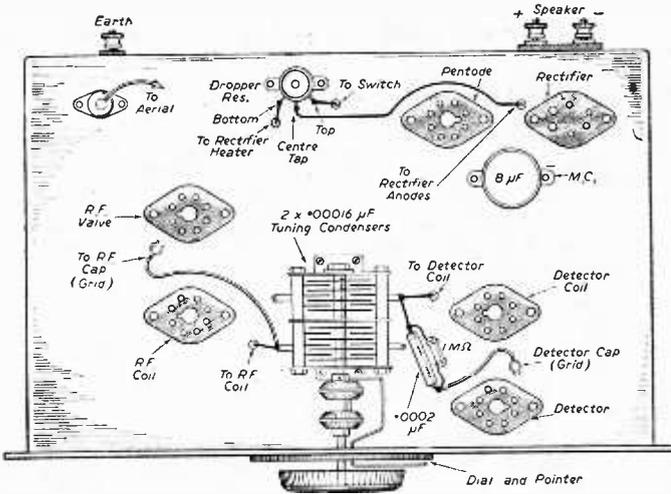

Fig. 8.—Top of chassis layout.
**T**HE layout of the chassis is shown in Fig. 8. There is no H.T. fuse bulb as in the battery set. Additional are the mains dropper, located at the extreme back of the chassis, and the 8 mfd. smoothing condenser between the detector coil and rectifier. This should have the case (negative) in contact with the chassis. The positive tag passes through a hole about  $\frac{1}{4}$  in. in diameter.
As the caps of the R.F. and detector valves are the grid connections, a lead is taken from one to the tuning condenser. The grid leak and grid condenser are soldered together and supported in the lead to the detector grid (see Fig. 8). Rubber-covered, solid wire of about 20 s.w.g. should be used for these leads.